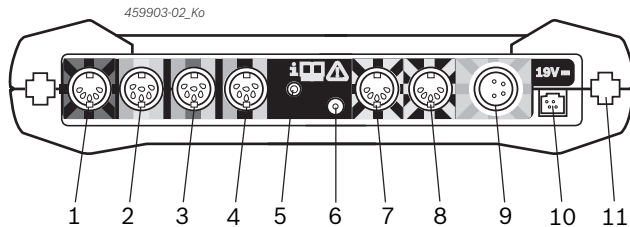

Fig. 2: FSA 500 connection panel (viewed from underneath)
For connection refer to Fig. 2, Pos. 6.
5. Connect the sensors at the measurement unit slots provided (refer to Fig. 2).